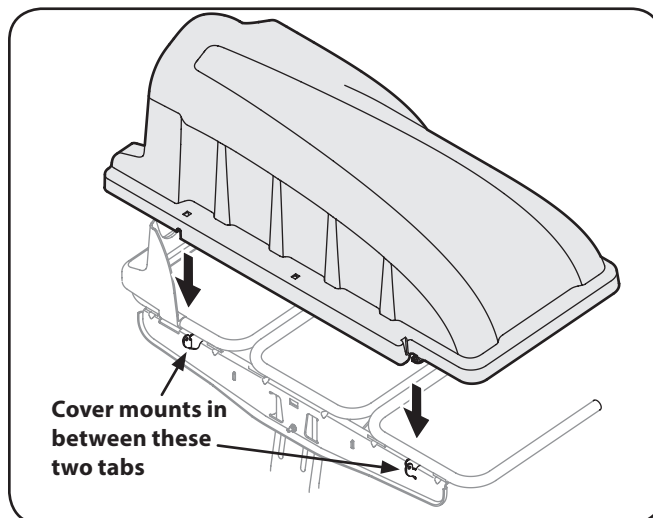

Figure 4-10
5. Install the bagger cover onto the bag support assembly, as seen in Figure 4-10. The plastic cover goes inside of the two mounting tabs.